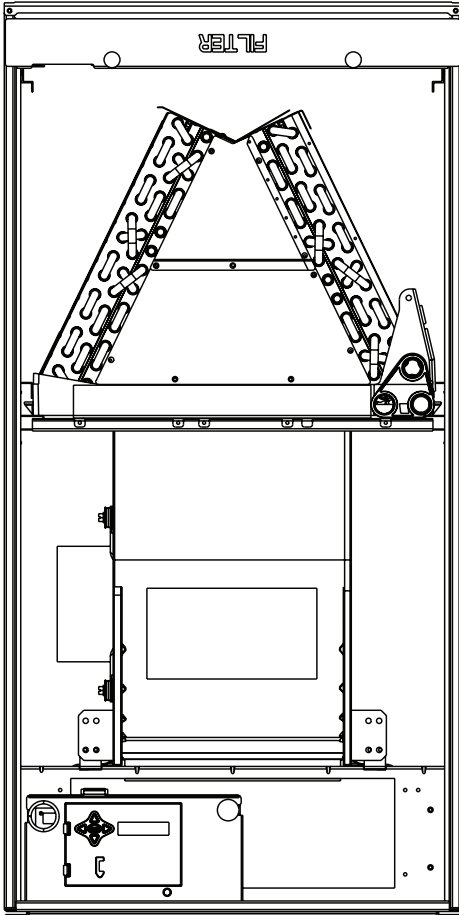

Figure 10. Converted Air Handler Panels Removed
10. Place the unit with the blower side down and replace the coil on the coil channel supports with the drain connections at the bottom. The unit is now in downflow position with front access. Do not reattach coil support tab. See Figures 10 and 11 for final configuration.